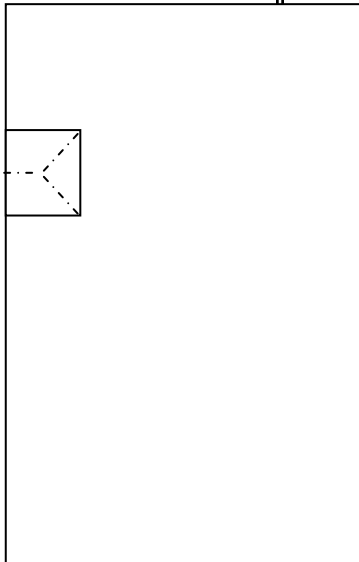

Figure 2
- Figure 2 shows cutouts at the edge of the pad.